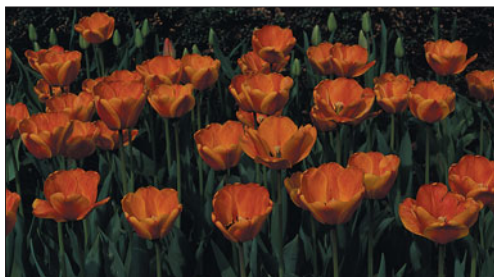

Figure 5.137 The original RGB image in full color.
1. Select an RGB image (see Figure 5.137).